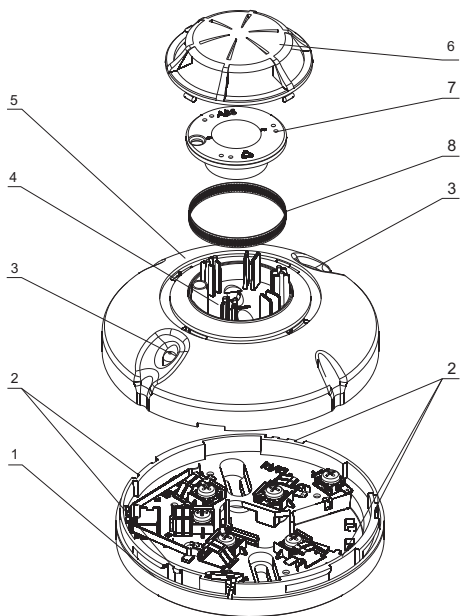
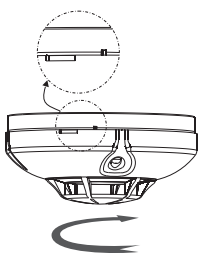
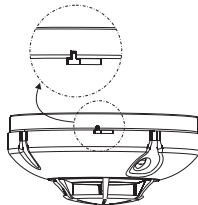

Fig.1
Fig.3.1
Fig.3.2
The circuit board and the optic chamber (Fig.1, position 4) are mounted within the plastic body (Fig.1, position 5). Two LEDs, (Fig.1, position 3), offering 360° visibility, illuminate to indicate the following:
3. Replace the detector head on the base and rotate it in a clockwise direction to reach the base's leading channels (Fig.1, position 2). Continue rotating in a clockwise direction to complete location (Fig.3.1). The bench marks of the head and the base should fully coincide (Fig. 3.2).
2. Wait until the fire detector is set to Duty Mode and exert influence on the fire detector by smoke generator or another device with aerosol simulator of smoke. Within 40 seconds the fire detector shall enter fire condition and the LEDs (Fig.1, position 3) shall illuminate continuously.
To complete task 3 remove the head(Fig.1, position 6) and the chamber's upper part (Fig.1, position 7). Clean using a small brush. The chamber's upper part can be detergent washed, rinsed and dried.